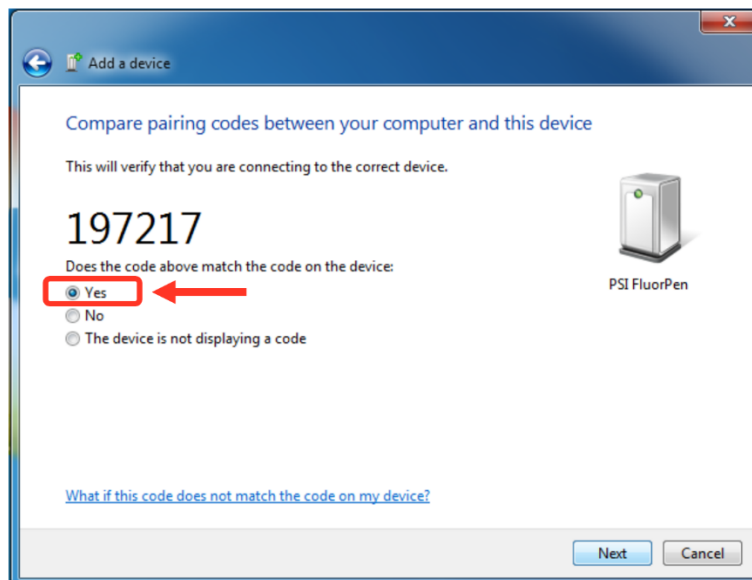

Fig. 11 Verifying of the BT pairing.
- Select: Yes (Fig. 11). **Please note that the N-Pen device does not display the verification number. The verification code is not important for the BT connection.**